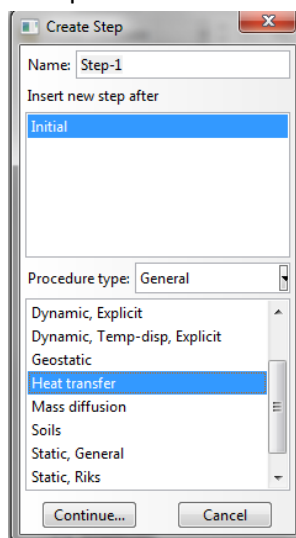

Figure 8
- Double click on load steps and create Step-1 and select Heat Transfer as in figure 8